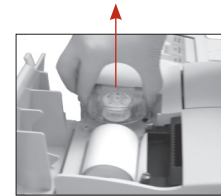

Figure 1: Remove the peristaltic pump cartridge
2. Remove the pump by firmly grasping the housing and pulling upward (Figure 1).